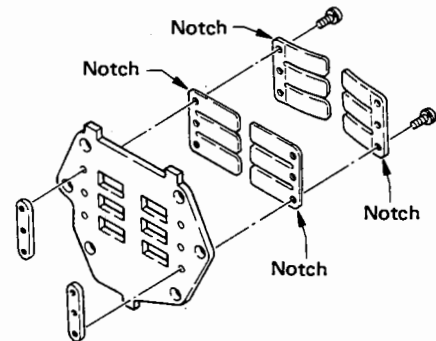

Fig.17.3
a. Both surfaces of the reed valve are different, so align the notches on the reed valve and valve stopper when assembling as shown in Fig.17.3.